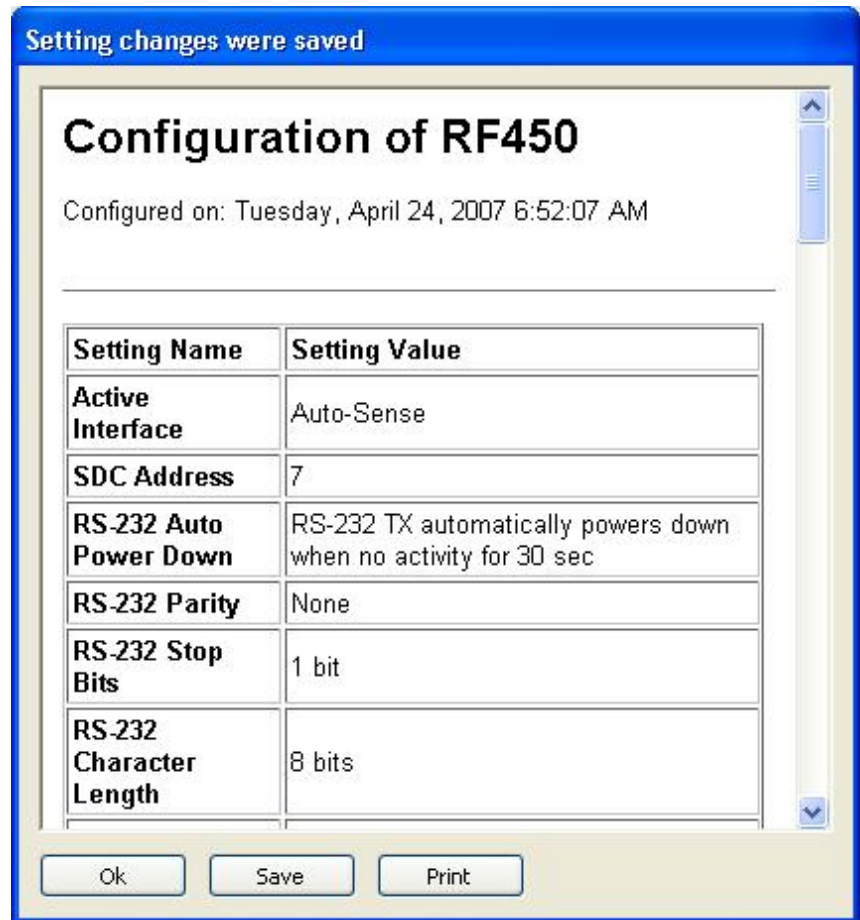

FIGURE 4-6. DevConfig RF450 Summary Screen
*DevConfig* makes applying the same settings to multiple devices easy. Once settings are configured for one device, click the Apply button; a summary screen similar to FIGURE 4-6 will show. Click the Save button to save a configuration file. This file can then be used to load the settings into another RF450. Click the Read File button to load the settings in *DevConfig* then the Apply button to load the settings into the RF450.